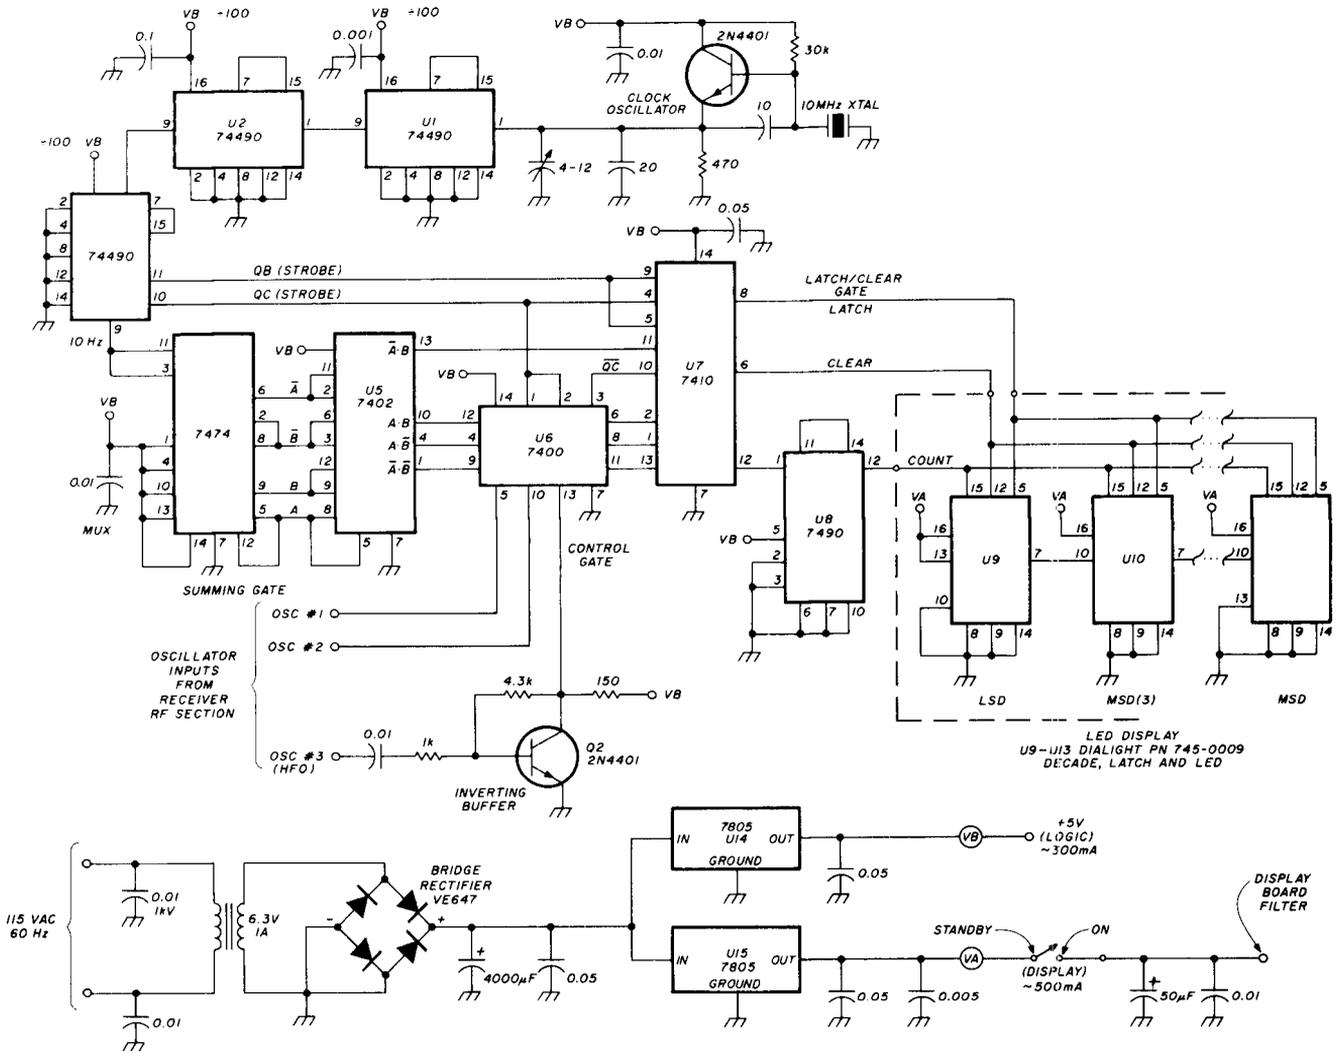

fig. 10. Digital-counter and display schematic.
Digital counter. Fig. 10 is the schematic of the digital counter. The clock from which the entire accuracy of our system depends is derived from the 10-MHz crystal oscillator, Q1, and multi-decade divided
1. Apply power to the gate control board and monitor the frequency of the quiescent states of the logic circuits, as shown in **fig. 10**. It may not be possible to verify the various timing pulses relative to each other